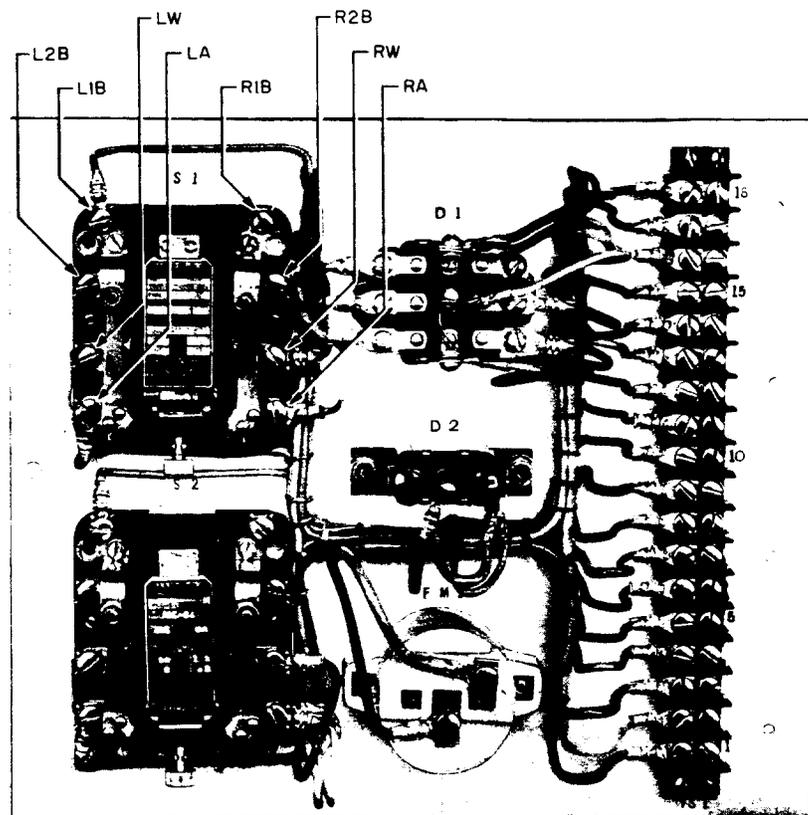

Fig. 18 - Control Panel — S1 Relay Terminal Designations —
(1) **General:** The oil may be removed from the tank to the level of the connection to the pump by pumping the oil as covered in (2). Removal of this amount of oil is sufficient for replacing all parts except the return line (flexible hose) to the tank, nosepiece, the drain cock, and bypass valve. To completely drain the tank after the pumping operation, proceed as covered in (3). The oil removed from the tank may be re-used in the hydraulic system if clean. Wipe off any oil that may drip onto the tool or floor.
(2) **Pumping Oil From Tank:** Remove the dust cap from the nosepiece (Fig. 18) just below the double-solenoid valve using the 3-inch C screwdriver. Remove the nosepiece from the coupler of the KS-16075 L4 filling and bleeding hose by pulling back the movable sleeve of the coupler toward the hose as far as possible to break the connection. Push the
(3) **Removing Oil Through Drain Cock:** Connect one end of a 24-inch length of 1/2-inch inside diameter rubber tubing to the drain cock (Fig. 18) located at the rear of the tank below the hydraulic shelf. Place the other end of the tubing in a clean container placed on the floor adjacent to the tool. Fully open the drain cock and allow the oil to drain out of the reservoir into the container. After all oil is drained, fully close the drain cock. Disconnect the tubing.
Wiring (see Fig. 18)